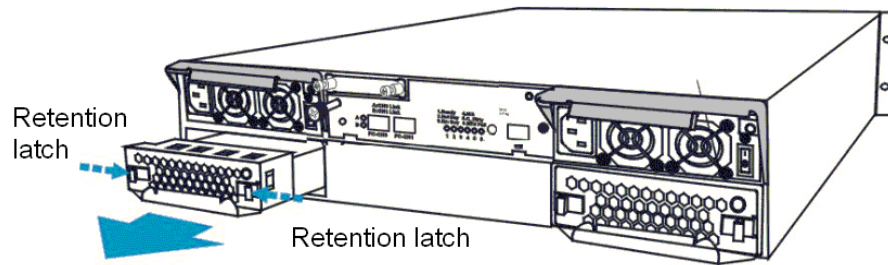

Figure 5-10: Removing the Cooling Module
- Step 1. **Remove the cooling module.** Squeeze both side latches towards the center of the cooling module and gently withdraw the cooling module from the subsystem by gently pulling on the silver handle at the bottom. (See **Figure 5-10**)